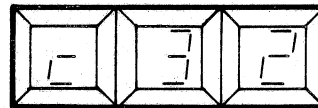

Figure 4-3. Terminal Status Display Window
3. Note that the Terminal Status Display (TSD), Figure 4-3, now contains a special symbol (□) in the left window and a two-digit code in the middle and right window. The □ symbol always indicates that the terminal is in the CONFIGURE mode. The two-digit code represents one of the enabled parameters.